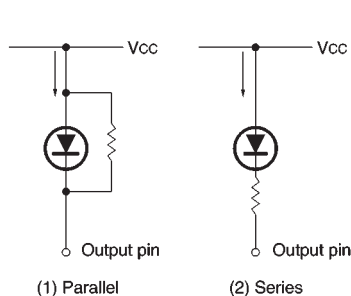

Fig. 3
parallel (Fig. 3 (1)) or in series (Fig. 3 (2)) with the LED. If a resistor is connected in series with the LED, the LED current will change if the supply voltage fluctuates.